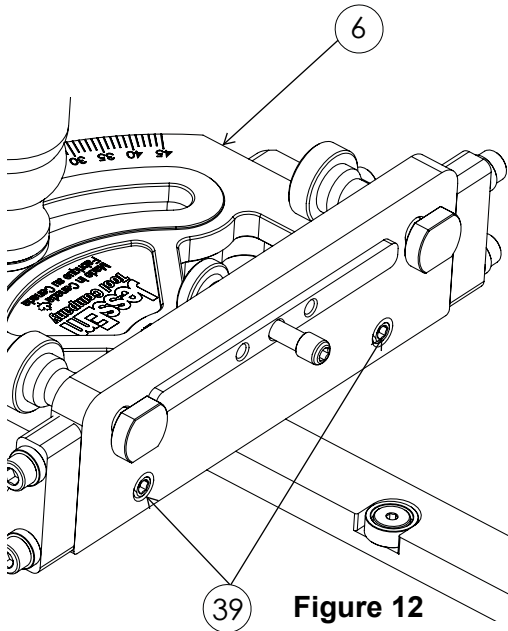

Figure 12
- c. Make sure the (2) 1/4-28 x 5/16" Flat Point Set Screw (Part # 39) are loose before moving on to step (d). Set screws should not contact gauge (Part #6) Shown in **Figure 12**